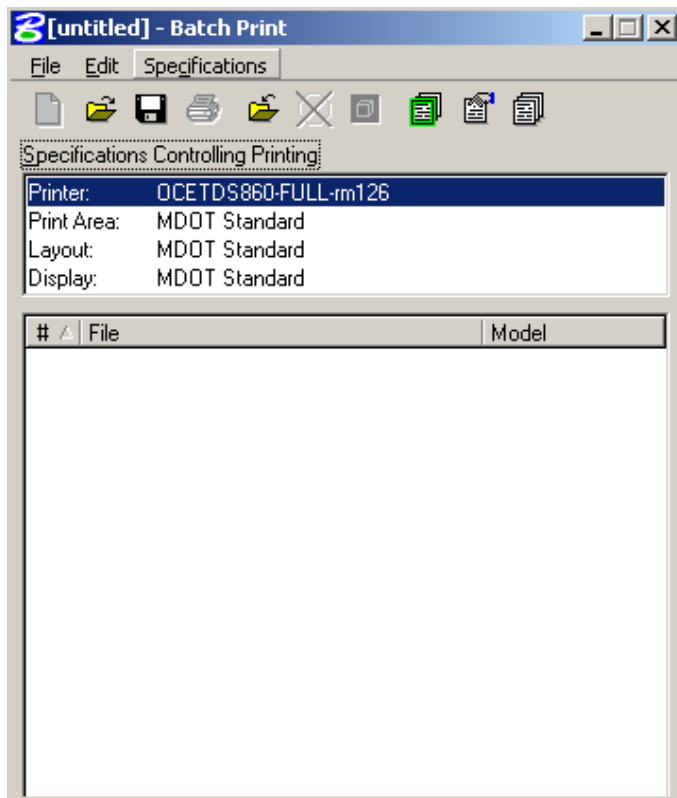

Figure 1-30: Batch Print dialog
First, select **File > Batch Print/Plot (DOT)**. This brings up the *Batch Print* dialog (Figure 1-30).
- ♪ The caption below (Figure 1-30) is for U.S. Customary units, based off the working units of your project MicroStation will launch a different *Batch Print* dialog with changes to the **Specifications Controlling Printing** area.